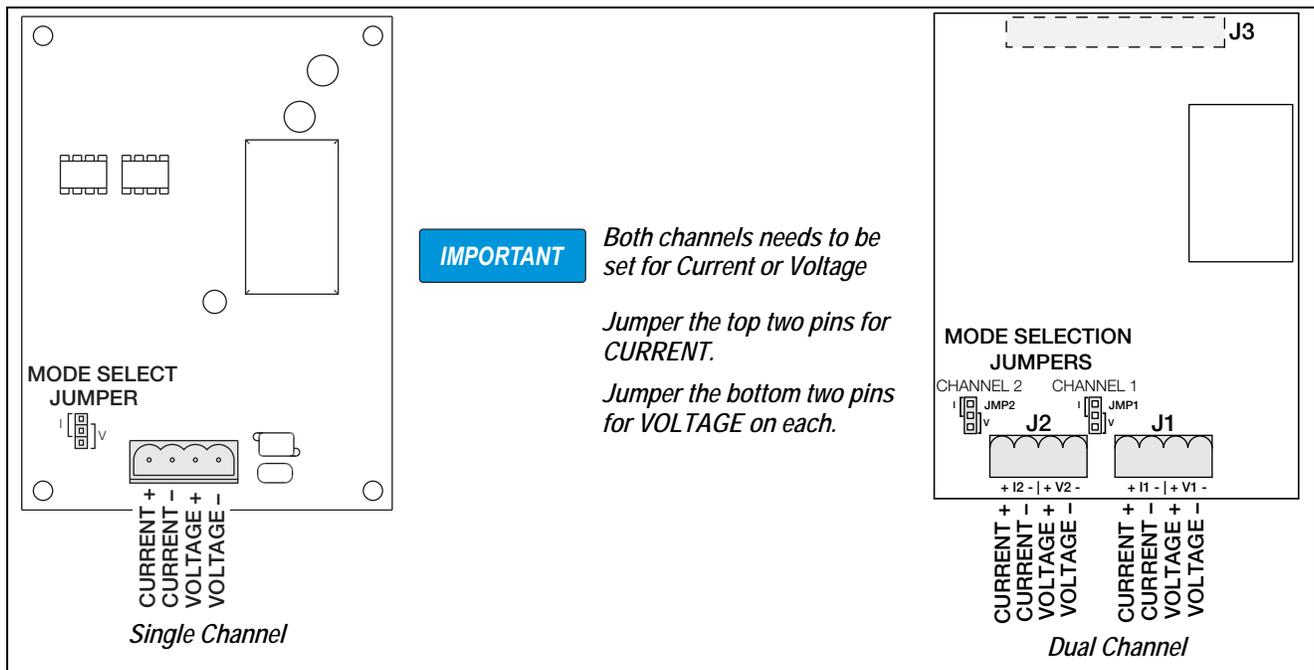

Figure 2. Analog Output Cards
6. Make connections to the option card as required. See Figure 2 for wiring 0-20 or 4-20 mA current or 0-10 VDC voltage.
8. Set the mode selection jumper (Figure 2) for voltage or current output.